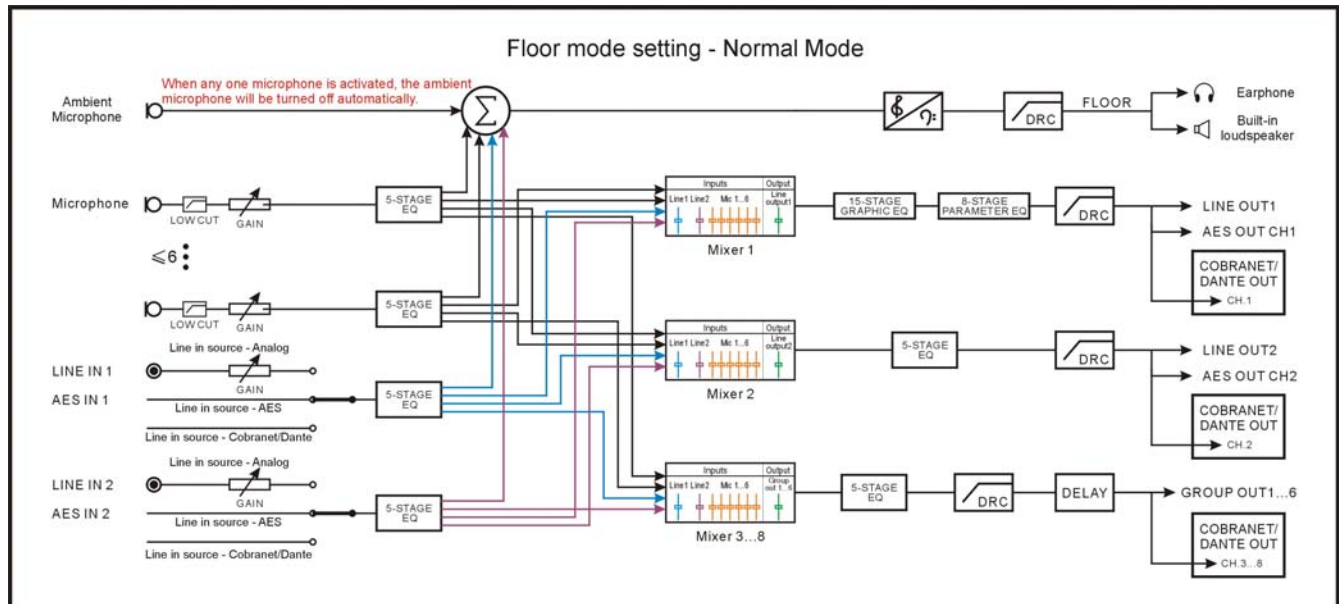

Figure 2.1.10 Floor mode setting – Normal Mode
- **Normal Mode:** the signal on LineIn1 and LineIn2 of the CMU are added to the floor signal, see figure 2.1.10;